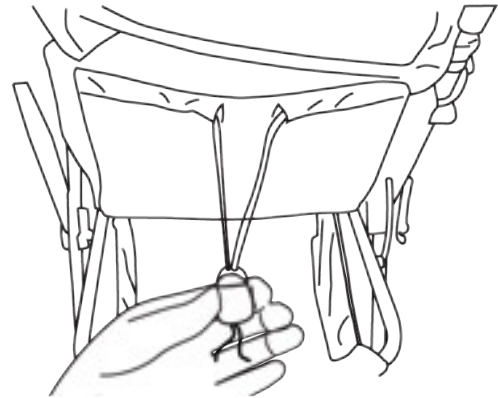

Fig. 17
16. Press buttons on each side cord housing and pull away to recline seat (Fig 17). To return to an upright position, hold cord loop while pressing buttons on each side of cord housing and move cord housing towards the backseat.
20. Close the canopy as described in the canopy section (Fig 8-9). Recline seat by releasing buckle as described in seatback positioning section (Fig 17).